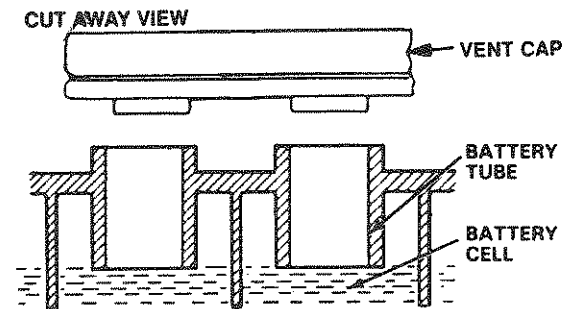

FIGURE 24
- Battery Acid level in each battery cell should be even with bottoms of tubes in cells (Fig. 24). Add only distilled water if necessary. NOTE: DO NOT OVERFILL. DO NOT ADD ACID.